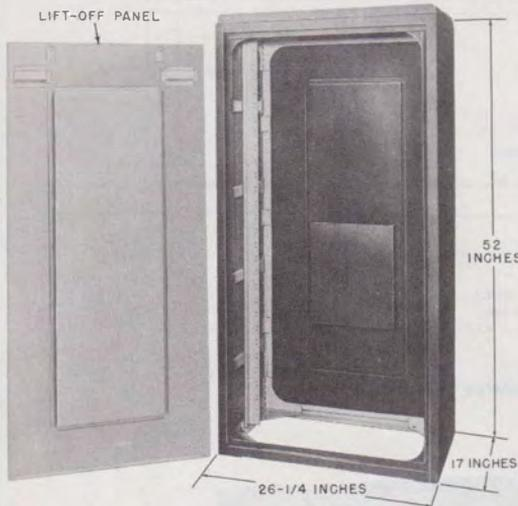

Fig. 12—26-Plate Apparatus Cabinet Per ED-92185-70
2.13 The 26-plate apparatus cabinet per ED-9218570* (Fig. 12) is a metal cabinet with a fixed mounting frame having a hinged door in front and lift-off panel in back. It is drilled for floor mounting.